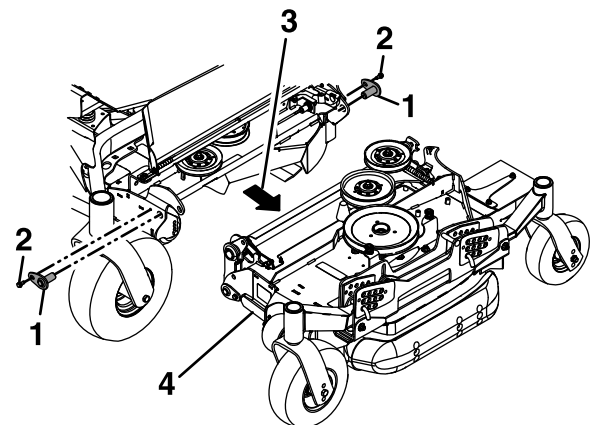

Figure 84
12. Remove and retain the bolts that secure the upper pivot pins to the deck and then remove the pivot pins (Figure 84).
13. Pull the wing deck outward to separate it from the center deck section (Figure 84).
Align and install the upper pivot deck pins in the front and rear of the deck and secure it using the previously removed bolts (Figure 84).